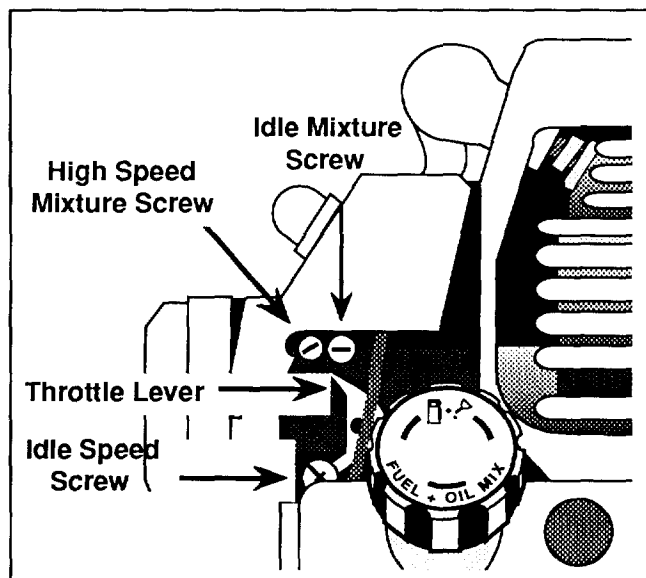

Fig. 25
2. **Initial Idle Speed Setting:** Turn the idle speed screw **counterclockwise** (Fig. 25) until it *does not contact* the carburetor throttle lever. Now turn the screw **clockwise** until it *begins to move* the throttle lever; then continue turning 2 full turns.
3. **Initial High Speed and Idle Mixture Settings:** Turn both the high and idle mixture screws **clockwise** (Fig. 25) until they are *lightly* seated. Then turn the screws **counterclockwise** 1-1/4 turns.
5. Release the throttle trigger and let the engine idle. If the engine stops, turn the idle speed screw (Fig. 25) **clockwise 1/8 turn** at a time (as required) until the engine idles.
- a. Turn the idle mixture screw (Fig. 25) clockwise until you hear the fastest idle; then turn the screw **counterclockwise 1/8 turn**.
- b. Squeeze the throttle trigger. If the engine falters or hesitates as it accelerates, turn the idle mixture screw (Fig. 25) **counterclockwise 1/16 turn** at a time until the engine accelerates rapidly.